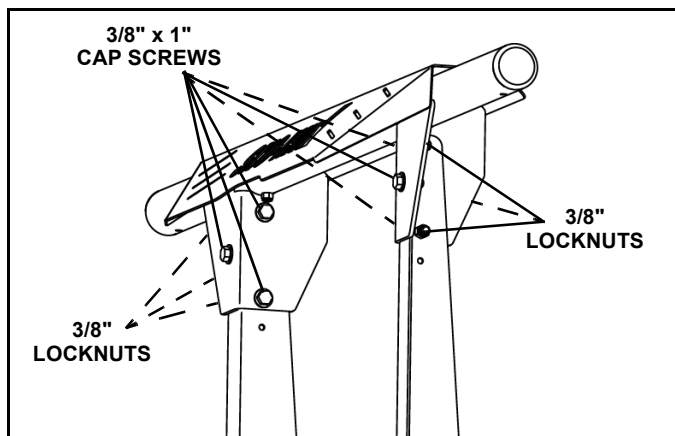

Figure 1-13
22. Secure light bar to the supports with (6) 3/8" x 1" screws and lock nuts. Align light bar supports to vertical position and tighten all light bar hardware. Tighten screws to 45 lb-ft. (See Figure 1-13.)